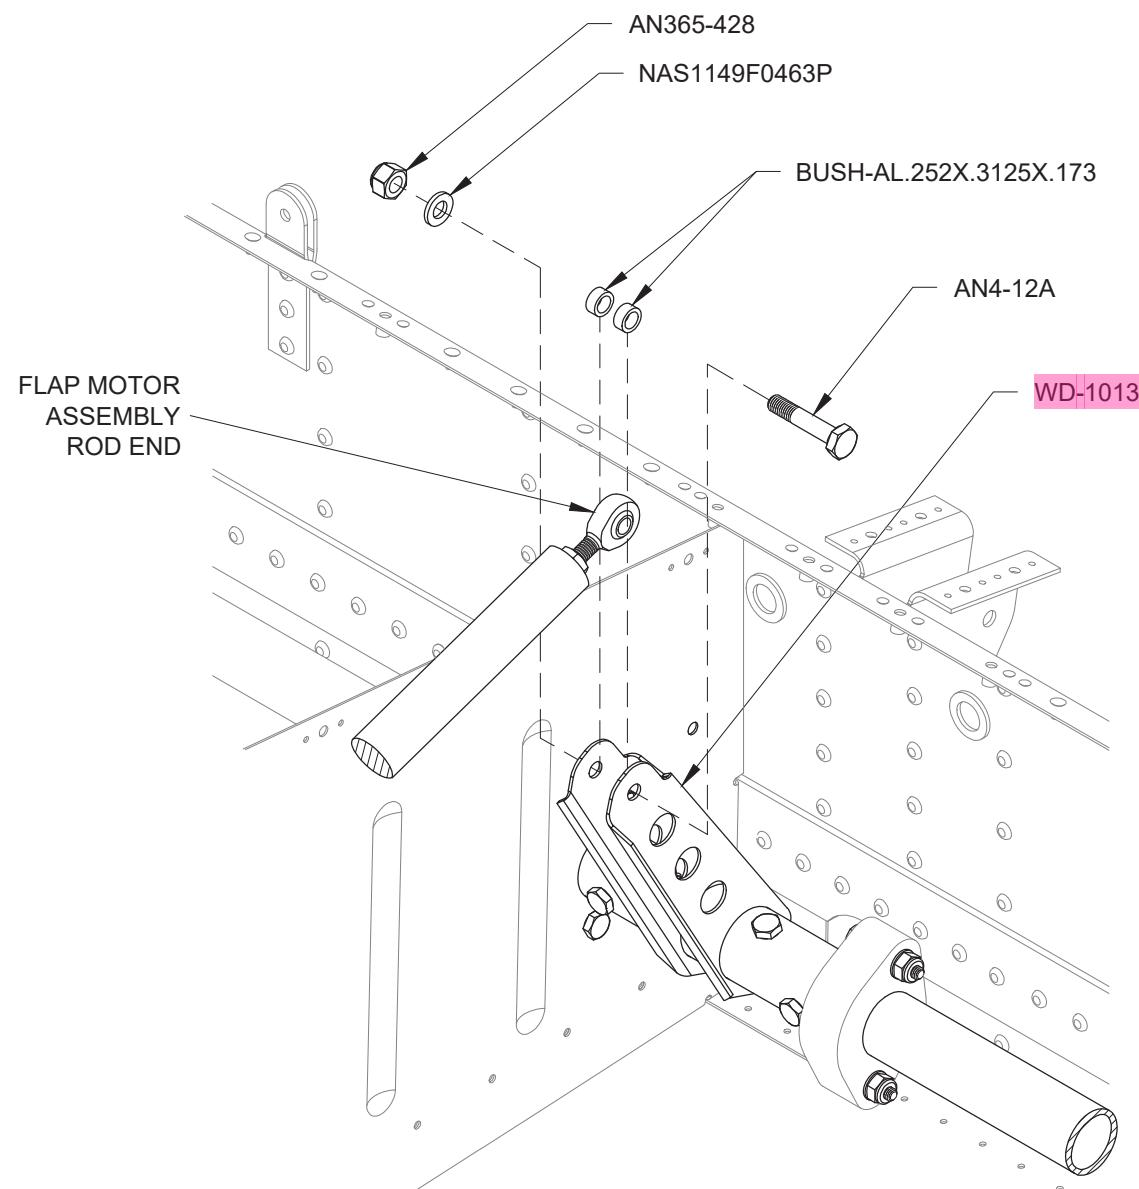

FIGURE 1:
Step 1: Bolt the rod end bearing into the **WD-1013A** Flap Crank using the hardware shown in Figure 1.